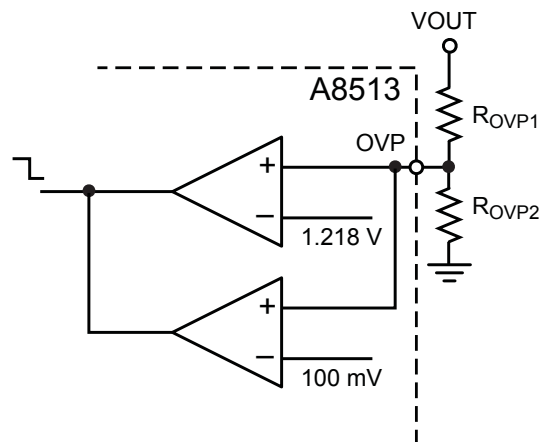

Figure 9. Simplified diagram of the OVP pin functions.
**Overvoltage Protection** The OVP pin has a threshold,  $V_{OVPHI(th)}$ , of 1.218 V. A resistive divider can be used to set the  $V_{OUT}$  overvoltage protection threshold up to 45 V (see figure 9). There is no restriction on the value of the resistor chosen, but it is recommended that the divider current be kept between 10 and 60  $\mu$ A. This will minimize the effect of sense current on the accuracy of OVP, and minimize output voltage bleed-off during PWM dimming.